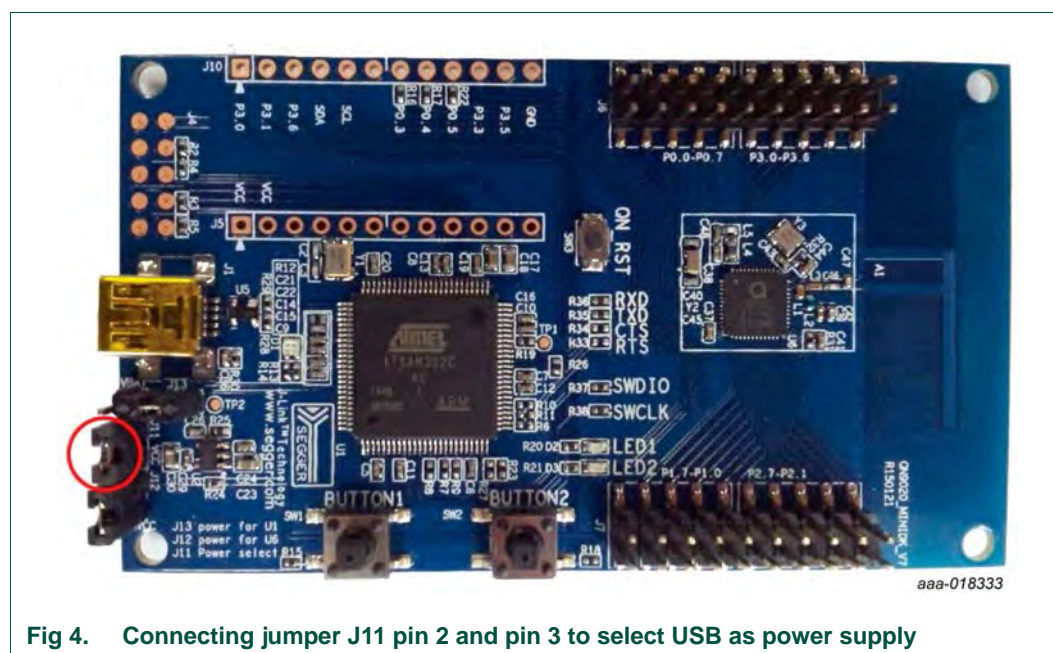

Fig 4. Connecting jumper J11 pin 2 and pin 3 to select USB as power supply
2. Battery-power mode: The CR2032 supplies power to QN9020 and optional sensor connector when it is in battery-power mode. The J-Link OB still uses the LDO as power supply via USB cable. When using USB interface as a power supply, connect the jumper J11 pin 2 and pin 3; see Figure 4.